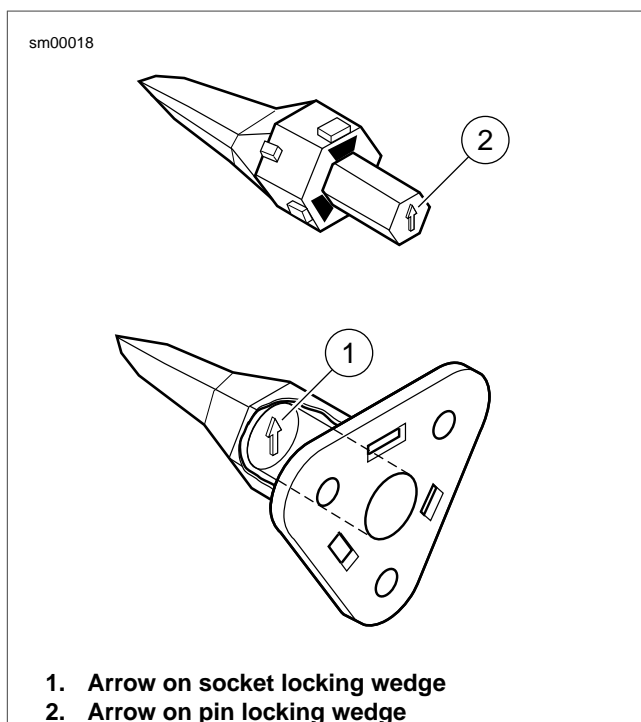

Figure A-12. Deutsch Connector: 3-Place Locking Wedges
- See Figure A-12. While rectangular wedges do not require a special orientation, the conical secondary locking wedge of the 3-place connector must be installed with the arrow (1) pointing toward the external latch.
- See Figure A-12. While rectangular wedges do not require a special orientation, the conical secondary locking wedge of the 3-place connector must be installed with the arrow (2) pointing toward the external latch.